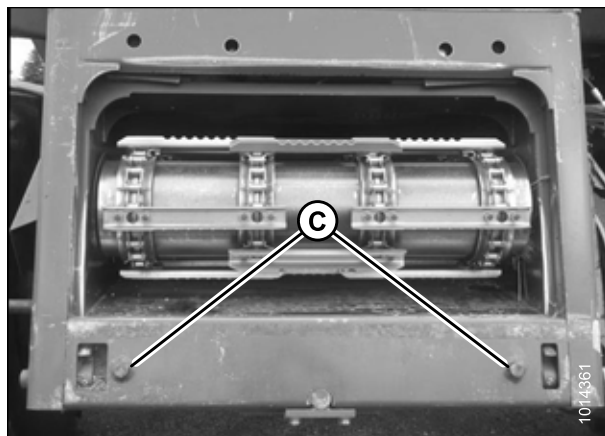

Figure 4.69: AGCO Group Alignment Pins
2. Start the engine and slowly approach the header until the feeder house is directly under the float module top cross member (A) and the alignment pins (C) (refer to Figure 4.69, page 323) on the feeder house are aligned with the holes (B) in the float module frame.